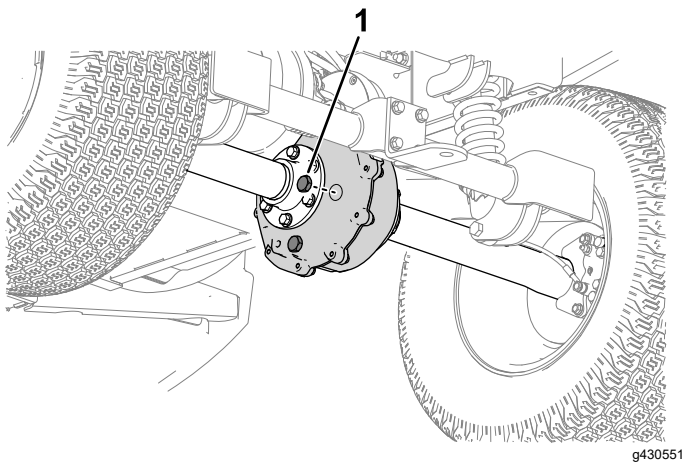

Figure 46
1. Remove the fill plug on the transaxle (Figure 46).
2. If the fluid level is low, remove the fill plug and add the specified fluid indicated in [Changing the Transaxle Fluid \(page 39\)] until it runs out of the hole (Figure 46).